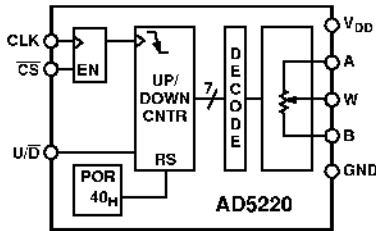

Figure 35. Block Diagram
The AD5220 contains a three-wire serial input interface. The three inputs are clock (CLK),  $\overline{CS}$  and UP/DOWN ( $U/\overline{D}$ ). The negative-edge sensitive CLK input requires clean transitions to avoid clocking multiple pulses into the internal UP/DOWN counter register, see Figure 35. Standard logic families work well. If mechanical switches are used for product evaluation they should be debounced by a flip-flop or other suitable means. When  $\overline{CS}$  is taken active low the clock begins to increment or decrement the internal UP/DOWN counter dependent upon the state of the  $U/\overline{D}$  control pin. The UP/DOWN counter value (D) starts at  $40_{11}$  at system power ON. Each new CLK pulse will increment the value of the internal counter by one LSB until the full scale value of  $3F_{11}$  is reached as long as the  $U/\overline{D}$  pin is logic high. If the  $U/\overline{D}$  pin is taken to logic low the counter will count down stopping at code  $00_{11}$  (zero-scale). Additional clock pulses on the CLK pin are ignored when the wiper is at either the  $00_{11}$  position or the  $3F_{11}$  position.